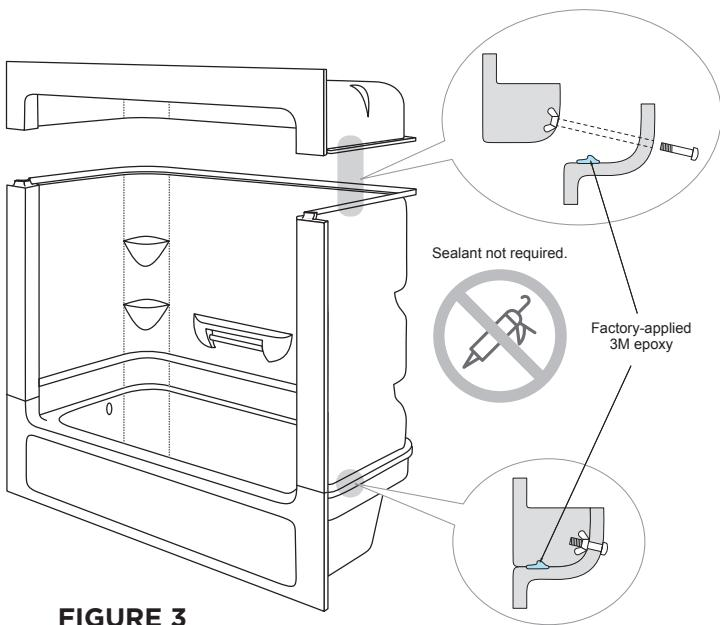

**FIGURE 2A**
**Table 1 - Technical Data** (p. 4) are for framed openings, not those of the unit. The bathware unit is to fit into a framed alcove wall as shown in **Figures 2A & 2B**. Inside dimensions of the studded alcove are to be as specified in **Table 1 - Technical Data**.
1. Build a solid frame using dimensions listed in **Table 1 - Technical Data** (see pg. 4). (**Figures 2A and 2B**)